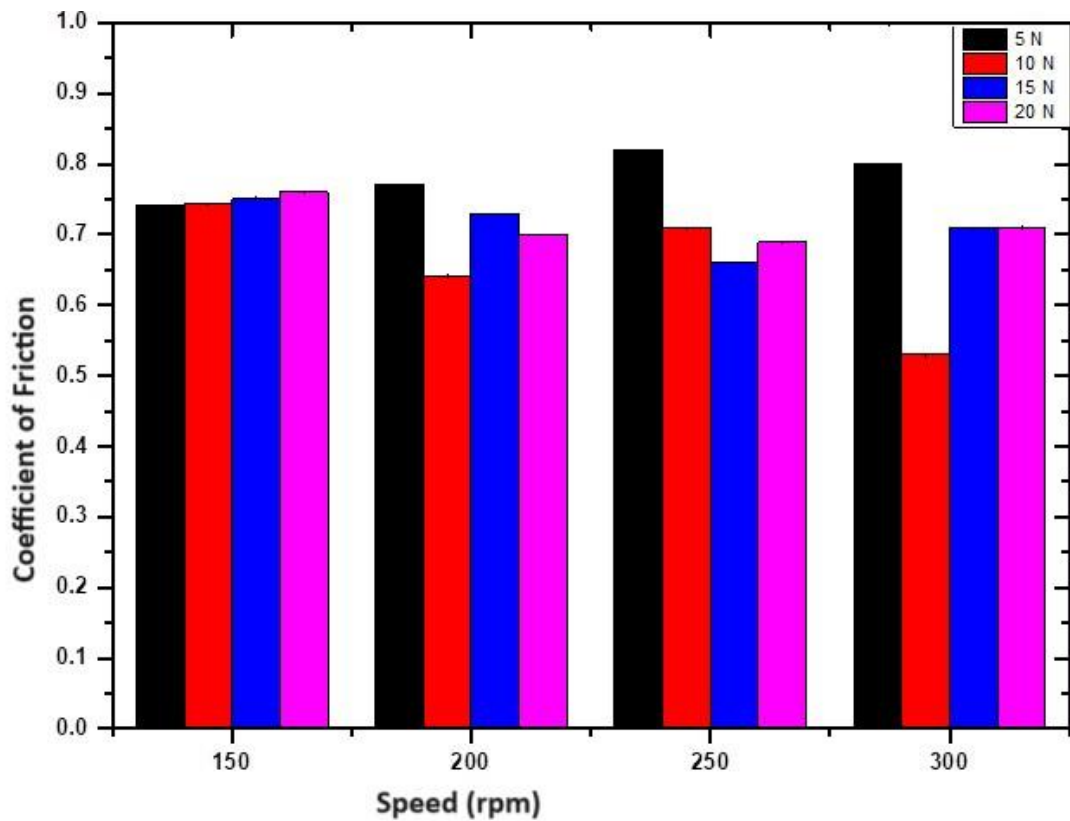

Fig. 3: Histogram plot of COF for different loads and speeds.
3. The average coefficient of Friction (COF) was determined during pin-on-disc wear testing experiments under combinations of disc speeds (speeds of 150 rpm, 200 rpm, 250 rpm and 300 rpm) and Normal loads (loads of 5 N, 10 N, 15 N and 20 N). Figure 3 shows the histogram plot of COF for various combinations of speeds and loads. Extract the data from Fig. 3 in a table format and plot a bar chart with colours of the bars different from those assigned in Fig. 3. Also draw the COF vs speeds (rpm) curves for various loads (N) in the form of the scatter plot with straight lines (with speed axis in the range 100-350 rpm).